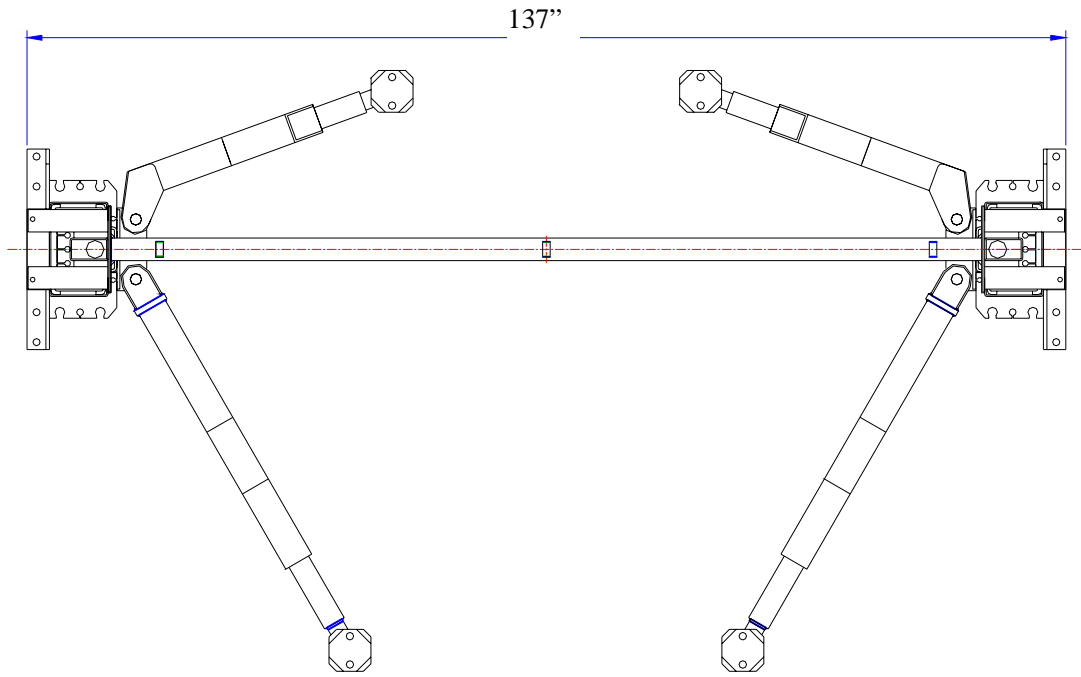

Fig.2
- A. Always use an architect's plan when provided. Before unpacking the lift entirely, determine if the site is adequate for the lift model being installed, see figures 2 and 3 for typical bay layout and ceiling height requirements.
- A. Raise the Mainside leg only and position it where it is to be secured, figure 2.
- I.** Raise the offside leg and position it where it is to be located, figure 2. **Do not drill holes for anchors.**